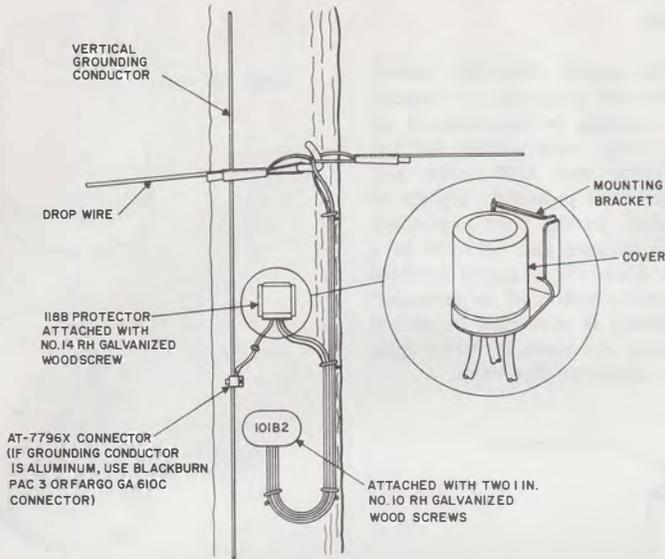

Fig. 94—118B Protector Connected to Drop Wire
13.02 The 118B protectors are connected to drop wires (Fig. 94) or rural wires (Fig. 95) as specified by detailed plans, telephone company engineering or supervisory instructions. The 118B protector provides protection for a single drop wire or rural wire run; however, the length of a drop wire or rural wire run may dictate the installation of additional protectors on the same drop wire or rural wire.